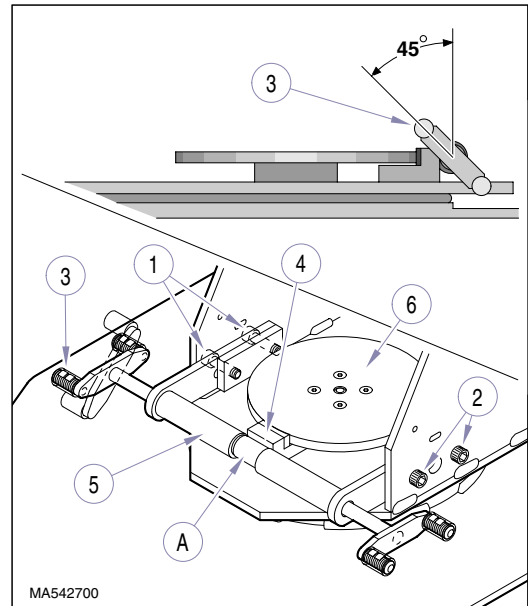

Figure 4-26. Brake Rotation Adjustment
- (4) Loosen two screws (1, Figure 4-26) on left side of chair and two screws (2) on right side of chair.
- (5) Position brake lever (3) so that it is at a 45° angle as shown in illustration.